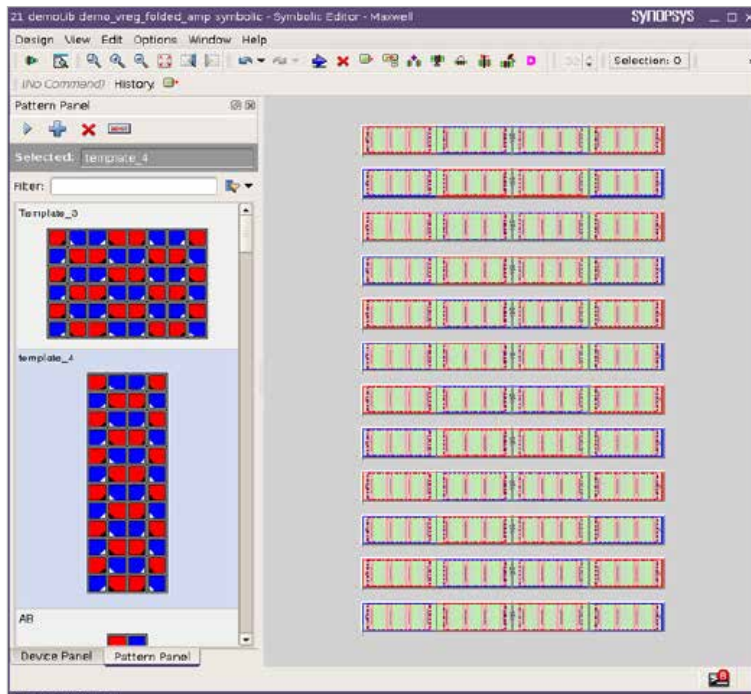

Figure 4: Example of templates for a differential pair
**Template Assistants** help designers reuse existing know-how by making it easy to apply previous layout decisions to new designs. Template Assistants actually learn from the work done with the Layout Assistant’s placer and router. They intelligently recognize circuits that are similar to ones that were already completed and enable users to apply the same placement and routing pattern as a template to the new circuits. Custom Compiler’s Symbolic Editor, for example, comes pre-loaded with a set of built-in templates for commonly-used circuits, such as current mirrors, level-shifters and differential pairs. Figure 4 shows the resulting patterns that have been found for a differential pair.